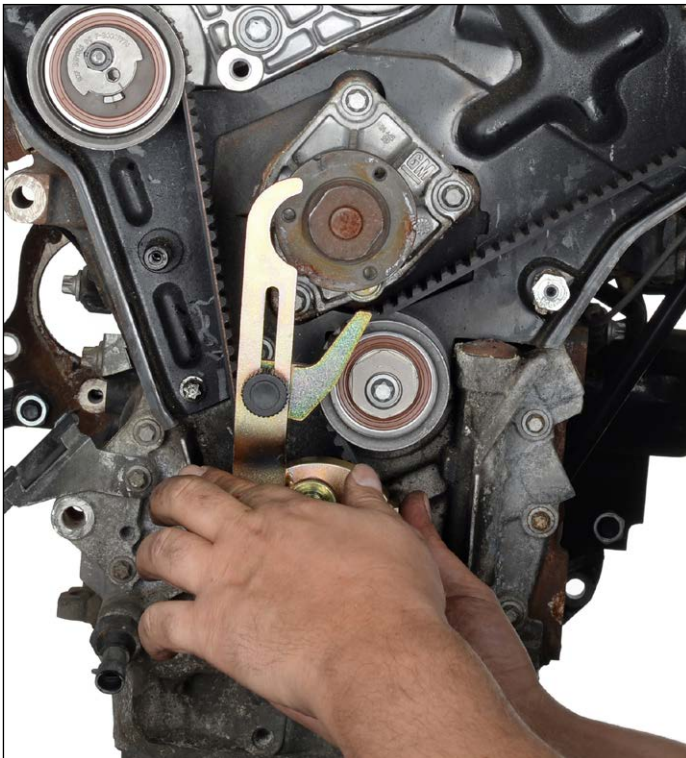

Fig. 2
2. Attach lock ring tool for crankshaft OE (KM-800-10) to the crankshaft gear (Fig. 2) and slowly turn the crankshaft in the direction of engine rotation until the lever of the lock ring tool is against the water pump (Fig. 3). The notches on the camshaft gears must now align with the grooves in the rear timing belt guard, and the notches on the crankshaft must align with the grooves in the lower housing at the 6 o'clock position (Fig. 4).